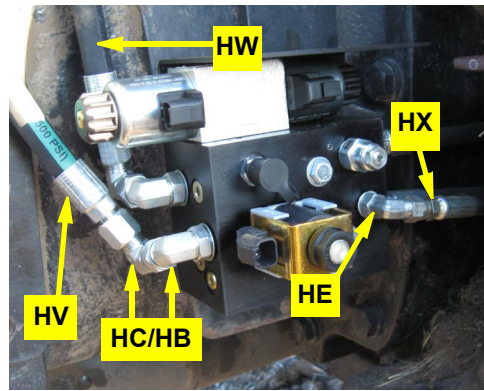

Figure 5c: LS, P and T hoses at steering block
- c. Connect the load sense hose **HX** to adapter **HE** in the LS port of the hydraulic steering block. Connect pressure and tank hoses **HV** and **HW** to adapters **HC** on adapters **HB** in the P and T ports on the hydraulic steering block (Figure 5c).